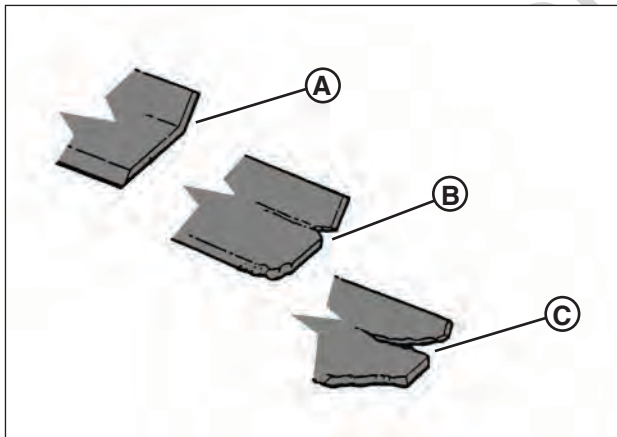

Figure 34: Mower blade wear limits
1. Inspect the blade frequently for signs of excessive wear or damage (Figure 34):
- (A) New blade;
- (B) Wear limit (notch starts);
- (C) Dangerous condition - do not use on mower! Replace with new blade. Contact your authorized dealer.
3. Inspect the condition of the blade (Figure 34).